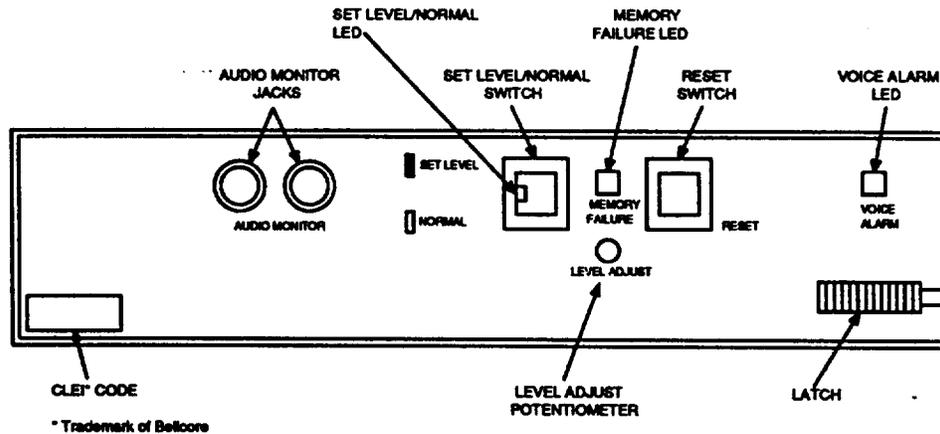
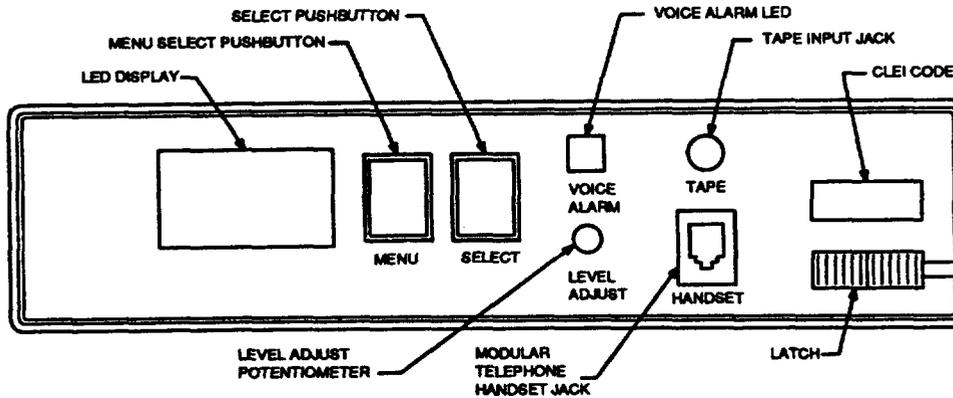

Figure 8. ALD1 Circuit Pack Faceplate
Figure 9. ALD2/ALD5 Circuit Pack Faceplate
**3.03** System controls and indicators are located on the faceplates of the ALD1 (Figure 8) and ALD2/ALD5 (Figure 9). These controls are described in Tables E and F, respectively.